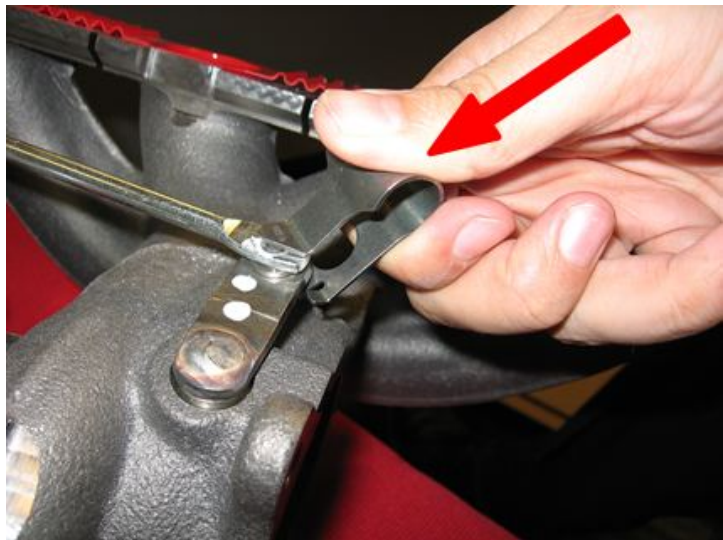

Figure 1. Fit the clip from the side.
2. Install clip **06J145220B** on a replacement turbocharger's link plate and actuating rod joint as illustrated (Figures 1 and 2).